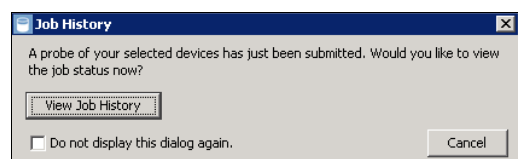

Figure 12-51 Job History
13. You are prompted whether you would like to view the job history, but you do not need to view it at this time. Click **Close** (Figure 12-51).